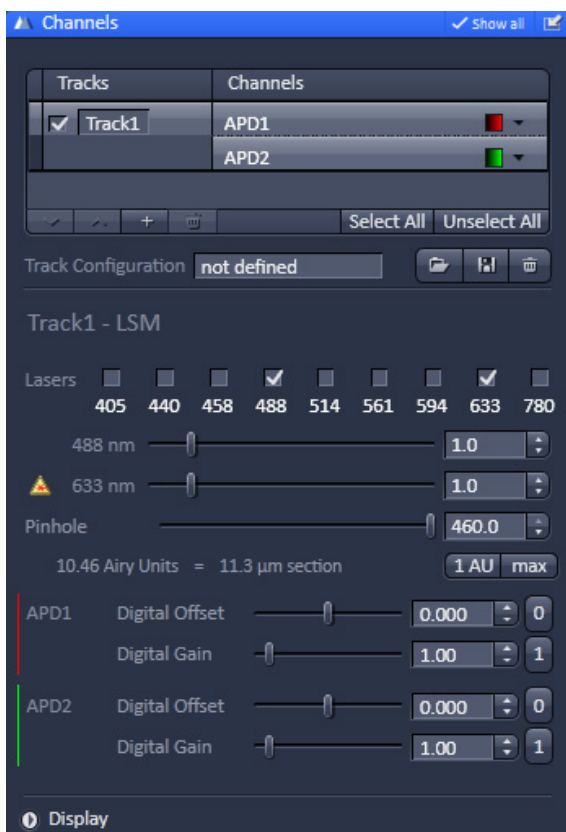

Fig. 334 LSM Channels tool
- Open in the **Online Acquisition** tool group the **Channels** tool (Fig. 334) and set the pinhole diameter (1 Airy Unit recommended), digital gain and digital offset. Select the required laser line and set the AOTF transmission. You can press the **Find** button to let the system optimize on the required gain.